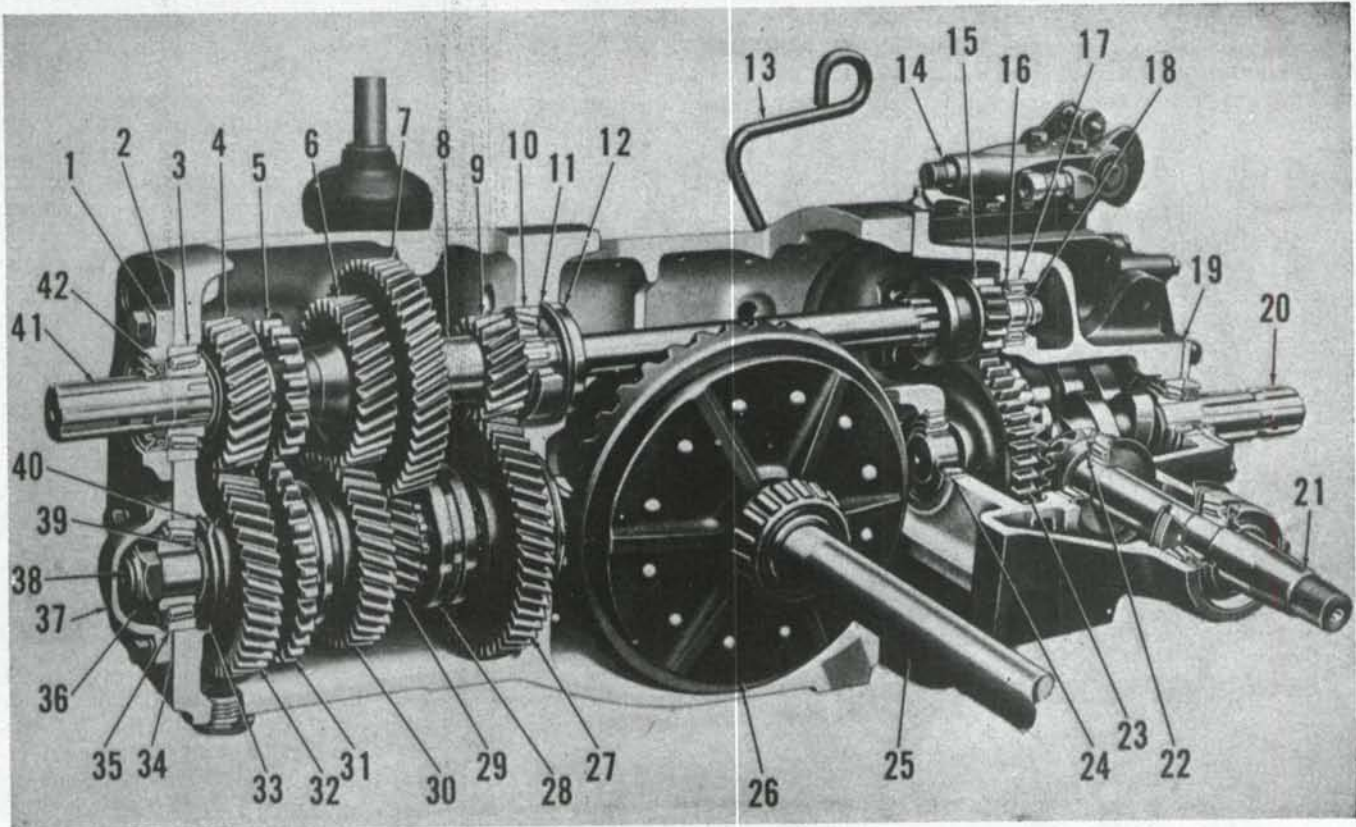

Fig. AC92—Model CA transmission shafts, bevel pinion, ring gear, and differential unit are contained in the transmission housing.
205. BASIC PROCEDURES. The transmission shafts, differential unit, final drive bevel pinion, and ring gear are carried in the one transmission and differential housing, Fig. AC92. The mesh position of the bevel pinion is fixed and non adjustable. There are infrequent instances where the failed or worn transmission part is so located that the repair can be completed safely without complete disassembly of the transmission. In effecting such localized repairs, time will be saved by observing the following as a general guide:
Fig. AC90—Model CA transmission shafts, gears and related parts—exploded view. Shims (2) control adjustment of main shaft bearings. Shims (39) control adjustment of bevel pinion shaft bearings. Refer to Fig. AC92 for legend to call-outs 1 through 42.